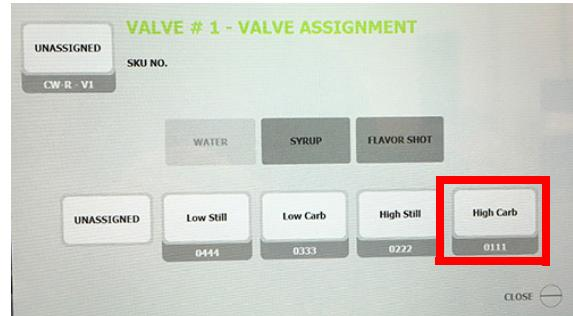

Figure 36
Result: A **Valve Assignment** screen appears for the selected valve. See Figure 36.
3. From the **Valve Assignment** screen (Figure 36), select **High Carb**.